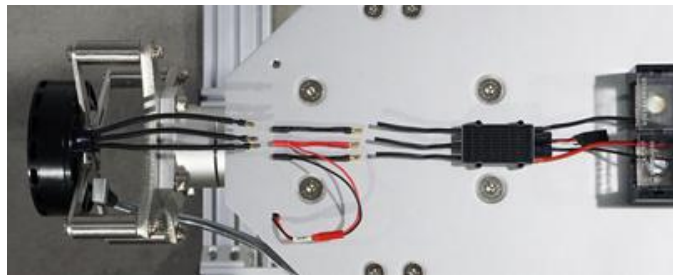

Fig 2.2.1 Motor&ESC Connection
(1) Connect Motor and ESC(Any two cables) with the conversion cables, as shown in Fig. 2.2.1. Then connect JST plug.